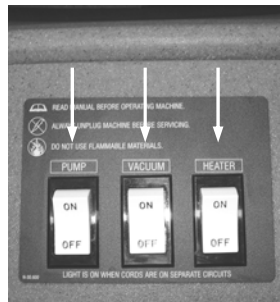

Fig. 5
1. Turn on vacuum and pump switches (Figure 5).